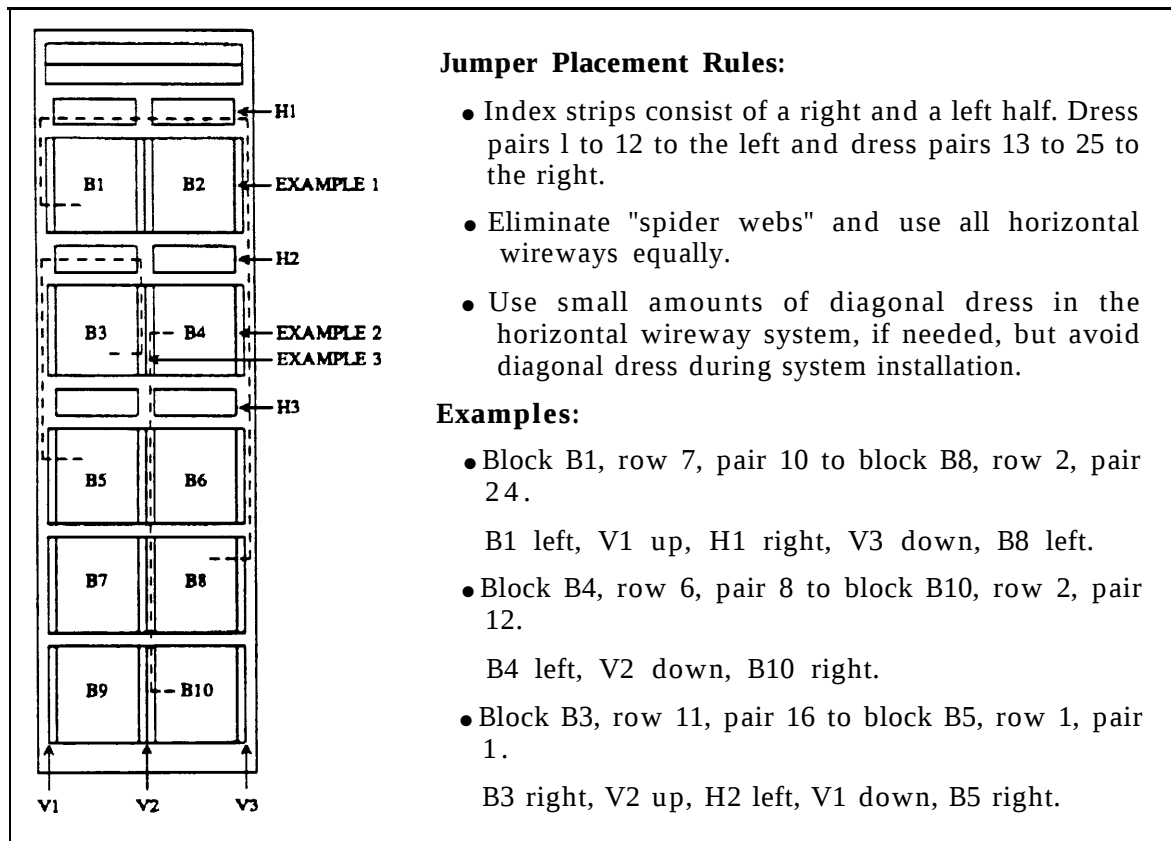

Figure 7-2. Jumper Placement
- Use the layout and instructions shown in figure 7-2, *Jumper Placement*, for the 110A terminal blocks. (Figure 7-2 illustrates a layout for frame mounting, but the layout applies to wall mounting as well.)